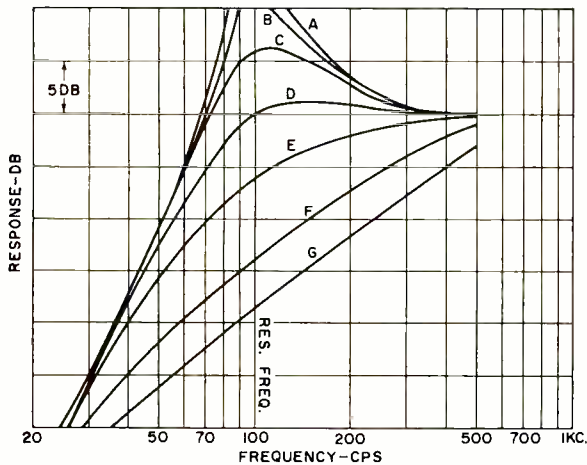

Fig. 5. Effect of various degrees of damping on the speaker.
Fig. 5 shows how a given speaker reacts to various degrees of damping. If the damping is low, response rises sharply in the vicinity of resonance (A). As damping increases, response changes as shown. The curve at D shows so-called "critical damping" where low-end response is uniform to the lowest possible point (to near resonance) without ever rising noticeably above mid-frequency response.
Curves E, F, and G show various degrees of over-damping (the "Q" is substantially less than 1), which bring about a gradual low-end roll-off. (All curves in Fig. 5 are normalized for easier comparison. Actually, increased damping results in the family of curves in Fig. 6. The shape of the curves is the same in both cases.)